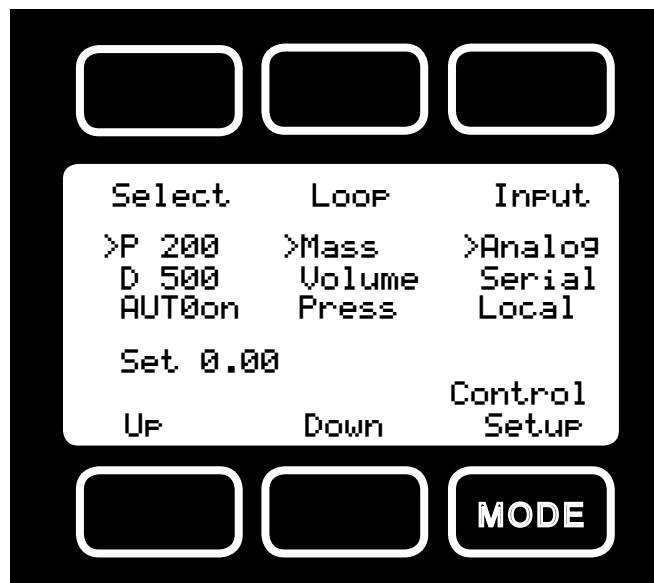

Figure 8. MC Series Control Setup Display
**Input** – MC Series Flow Controllers normally ship defaulted to analog control as indicated in Figure 8. To change how the set-point will be conveyed to the controller push the button in the upper right hand corner just above the dynamic label “Input” until the arrow is directly in front of the desired option. The controller will ignore any set-point except that of the selected input and it will remember which input is selected even if the power is disconnected.